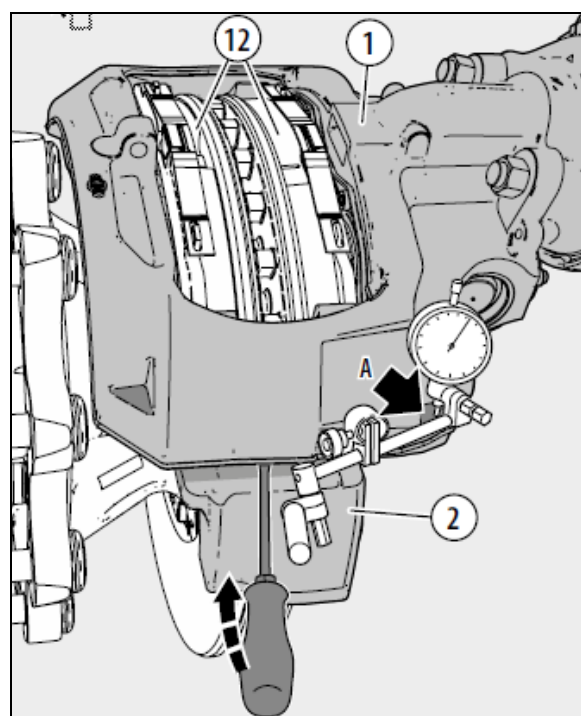

FIGURE 93: OBTAINING MAXIMUM VALUE OF BEARING CLEARANCE
3. Fasten a magnetic dial-gage holder to the carrier (2) on the floating bearing side of the caliper (1). Use the casting tag on the caliper (1) as the measuring point - see arrows A (see Figure 93).
5. Place a suitable tool (e.g. screwdriver with at least 200 mm in length) in a central position between carrier (2) and caliper (1) and lever them in opposite directions (using normal hand-force).